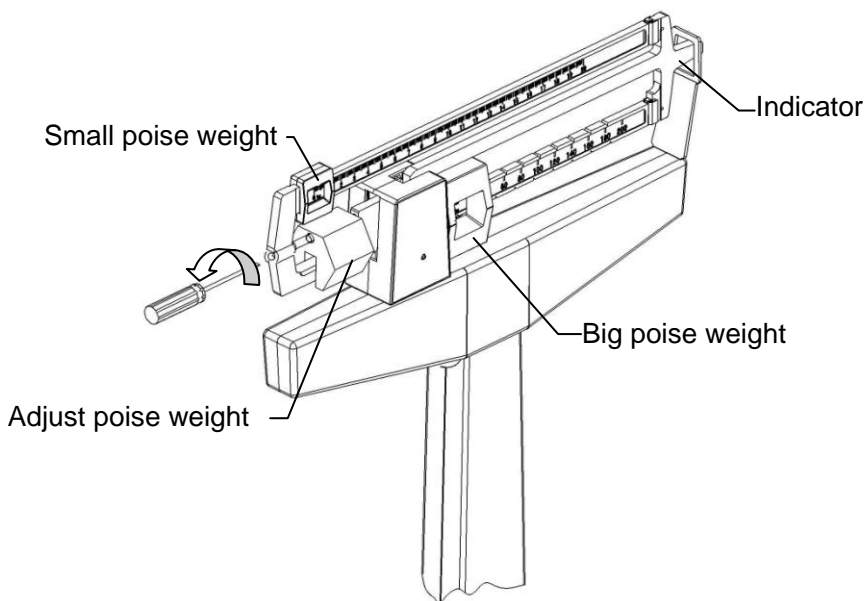

Fig.3
- 2.** Place both poise weights on zero (see Fig3). The beam pointer should float gently up and down and not touch the top or bottom of the trig-loop.